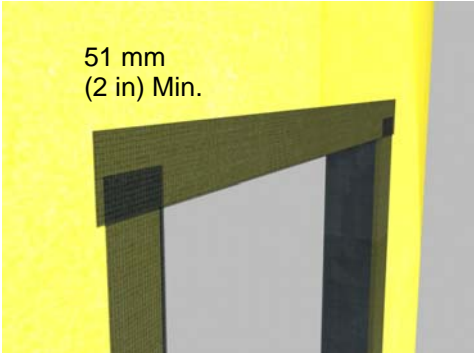

Figure 4
5) Install the AquaFlash System at the head overlapping the jamb pieces a minimum of 51 mm (2 in) – Figure 4.